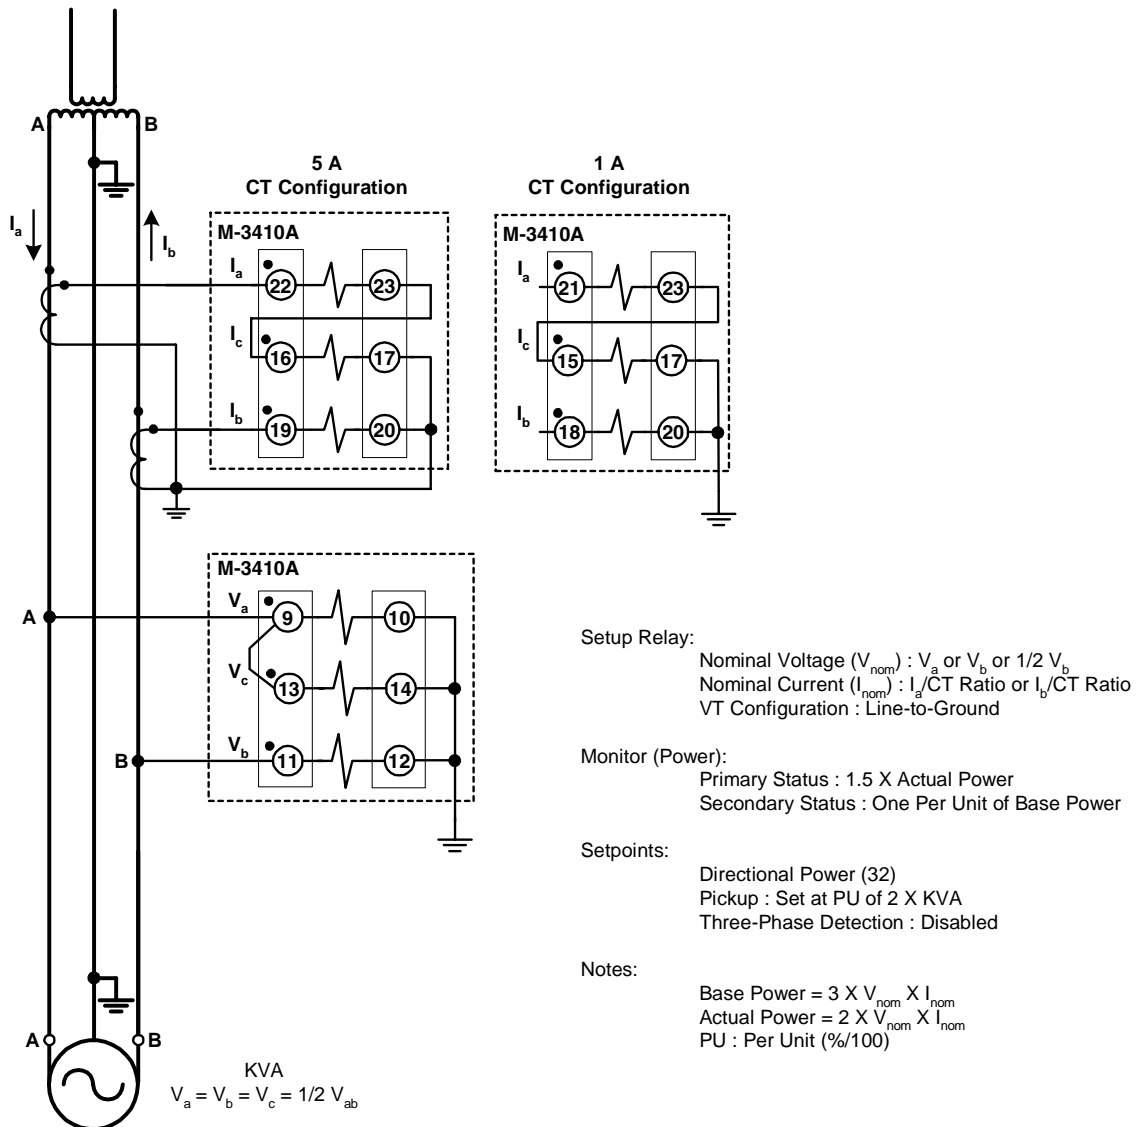

Figure 2-13 Single-Phase Three-Wire Connection Diagram
The second type of single-phase application is the 120 or 240 volts to ground. The wiring for this installation is shown in Figure 2-13. The Directional Power (32) Function is set to pickup at PU of actual kVA. The power displayed on the Primary Status Monitoring Screen will be the actual kVA, and the Secondary Status Monitoring Screen will display 1/3 PU of the three-phase base power calculated by the relay. The Undervoltage (27) and Directional Power (32) Functions can not be utilized with this connection.